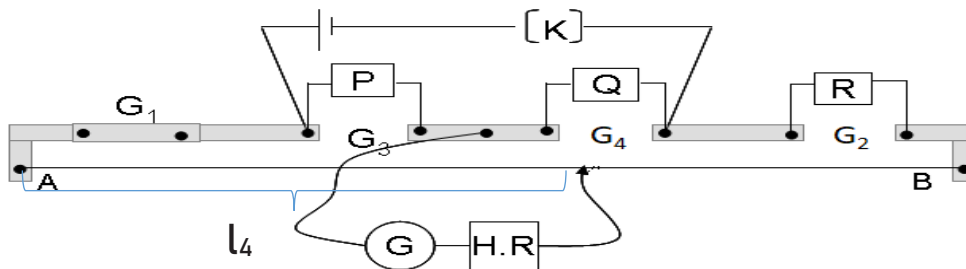

Fig 2 – R in the right gap and the left gap shorted
d) The resistance R and the copper strip are interchanged in the gaps. (Refer Fig 2).